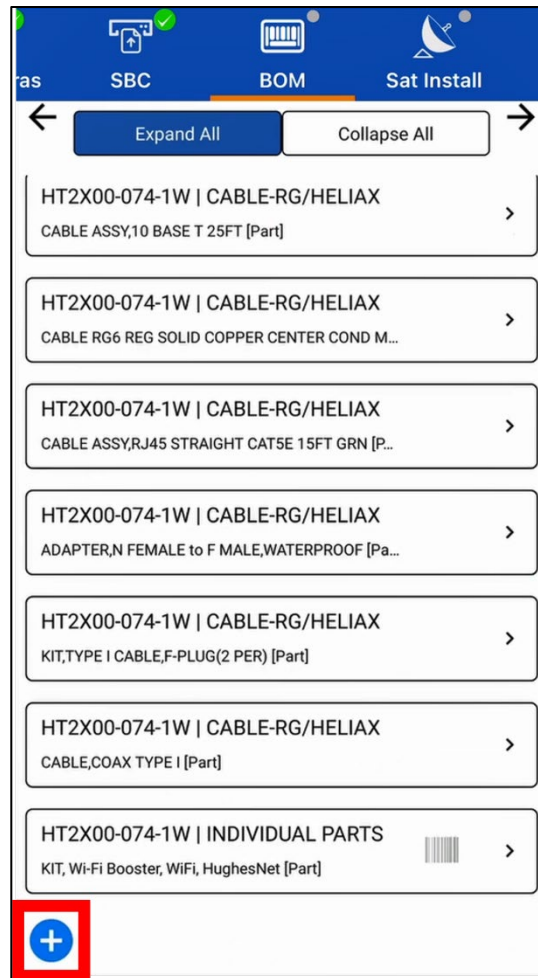

Figure 61: Adding an installation part
1. Tap the blue plus sign (+) to add another item. See Figure 61.